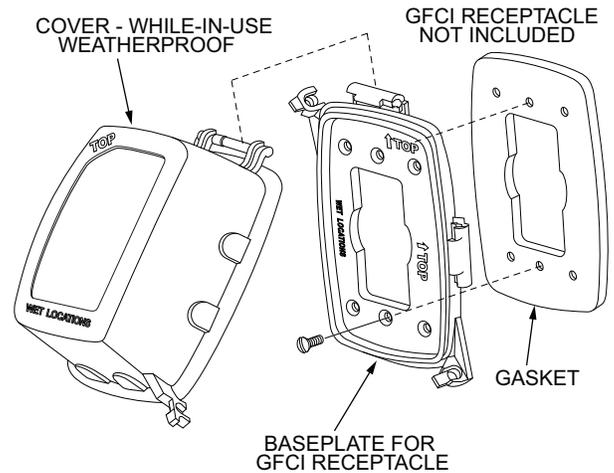

Fig. 23 — Weatherproof Cover Installation
4. Mount the weatherproof cover to the backing plate as shown in Fig. 23.